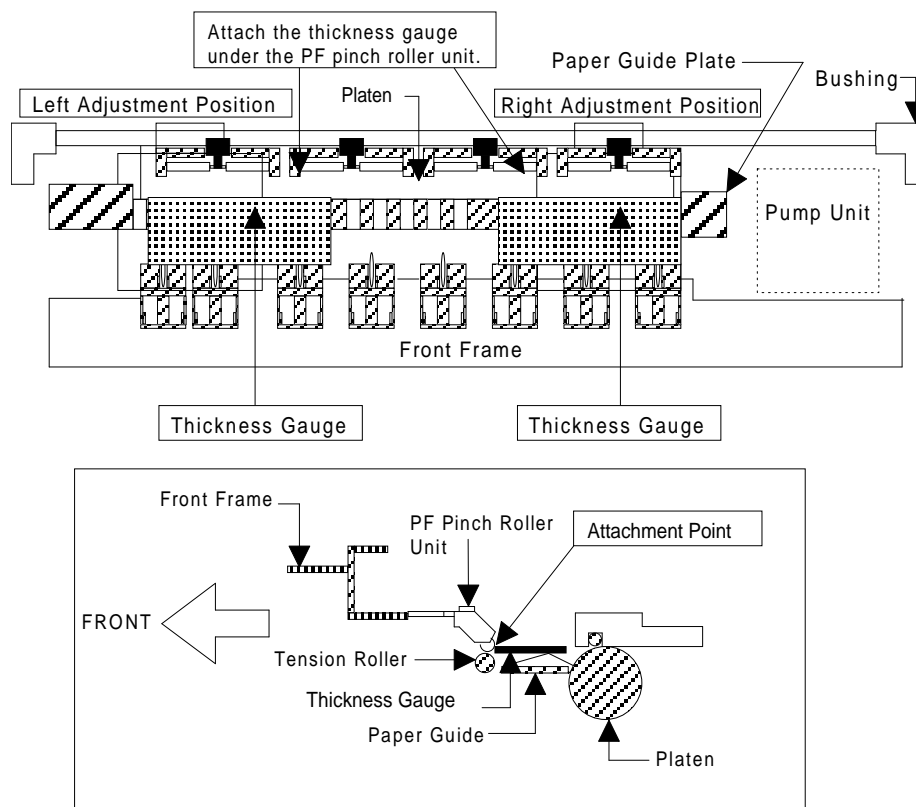

Figure 4-17. Adjusting the Paper Gap
6. Move the carriage manually to the right adjustment position and repeat steps 3, 4 and 5 referring to Figures 4-17 and 4-18.